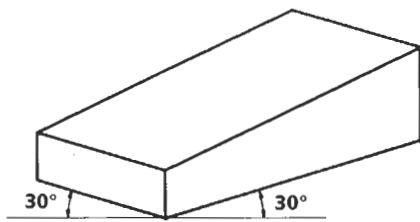

Figure 2 - Sample Isometric Drawing
**Pictorial drawings** generally show the front, top, and sides of an object in one view. The term "pictorial" tells you that the drawing resembles a picture of the object. Pictorial drawings are used to show what an object will look like, and how it is assembled. Pictorial drawings are often included in assembly instructions and repair and maintenance manuals. There are three basic types of pictorials. They are (1) isometric, (2) perspective, and (3) oblique.
**Isometric drawings** are prepared on lines drawn at 30 degree angles to the horizontal plane. The front, top, and side are drawn to their true length, which produces an approximate view of the object. (See Figure 2.)